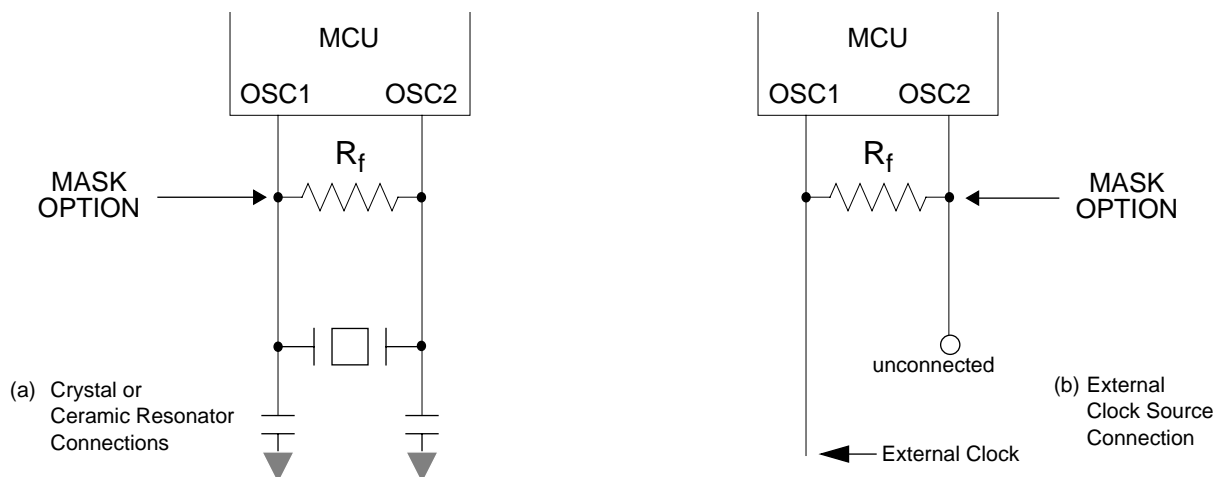
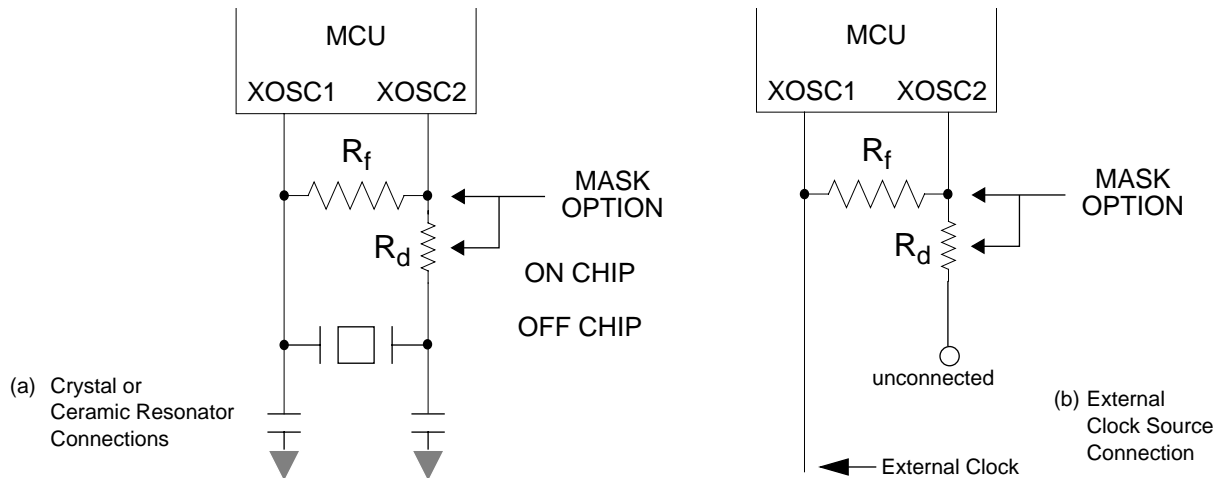

Figure 1-3. OSC Connections
Figure 1-4. XOSC Connections
1. A crystal as shown in **Figure 1-3(a)** and **Figure 1-3(a)**
2. An external clock signal as shown in **Figure 1-4(b)** and **Figure 1-4(b)**
The circuits show in **Figure 1-3(a)** and **Figure 1-4(a)** are typical oscillator circuit for an AT-cut, parallel resonant crystal. The crystal manufacturer's recommendations should be followed, as the crystal parameters determine the external component values required to provide maximum stability and reliable start-up. The load capacitance values used in the oscillator circuit design should include all stray capacitances. The crystal and components should be mounted as close as possible to the pins for start-up stabilization and to minimize output distortion. OSC and XOSC pins have mask options for feedback and damping resistor implementations. See **Section 1.2** for these mask options and **Section 14** for the resistor values.